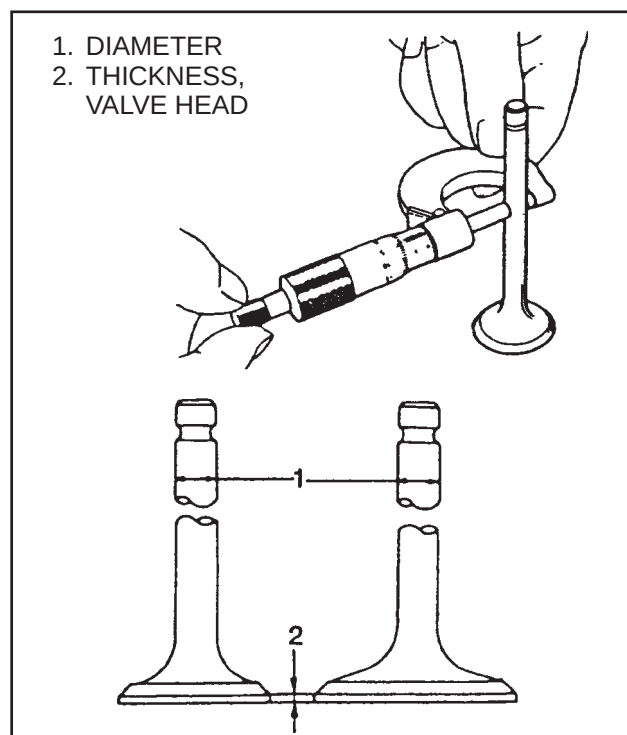

FIGURE 14. INSPECT THE VALVES
1. See FIGURE 14. Inspect the stem of each valve for wear. Use a micrometer to measure the outside diameter
2. Inspect the valves for cracks, burned faces and distortion. Inspect the seat face of the valves for wear and damage. Measure the thickness of the valve head. See FIGURE 14. The minimum thickness for an intake valve is 0.5 mm. The minimum thickness for an exhaust valve is 1.0 mm.